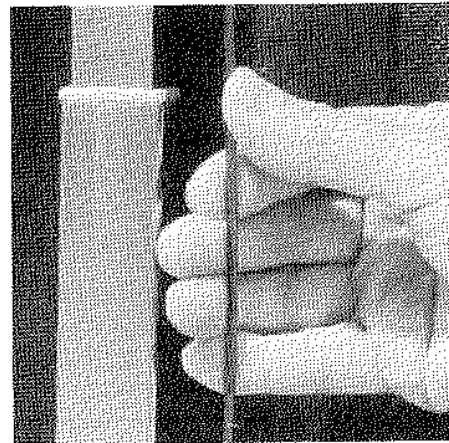

Fig. 2
3. Continue cranking until the limit cable is almost tight. The gray limit cable is located directly above the crank position. Fig. 2
8. Now, complete raising roof until gray limit cable is snug. DO NOT OVERTIGHTEN. Fig 2